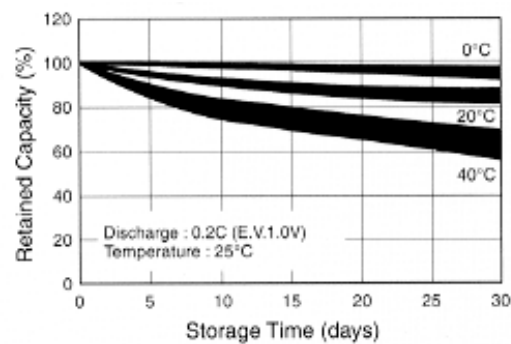

Figure 2-20. NiMH Battery Storage Characteristics
It is normal for NiMH batteries to self-discharge during storage (Figure 2-20) and to degrade to 80% of original capacity after 12 months of continuous use.
- Storing the battery in extreme hot or cold places will reduce the capacity and lifetime of the battery. The battery will discharge faster at higher ambient temperatures (see Figure 2-20).